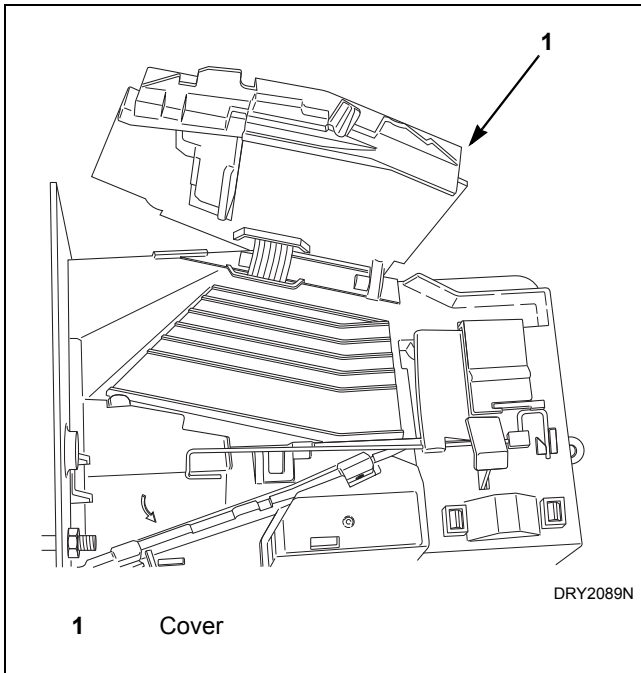

Figure 3
- b. Open cover for coin drop. Refer to *Figure 3*.